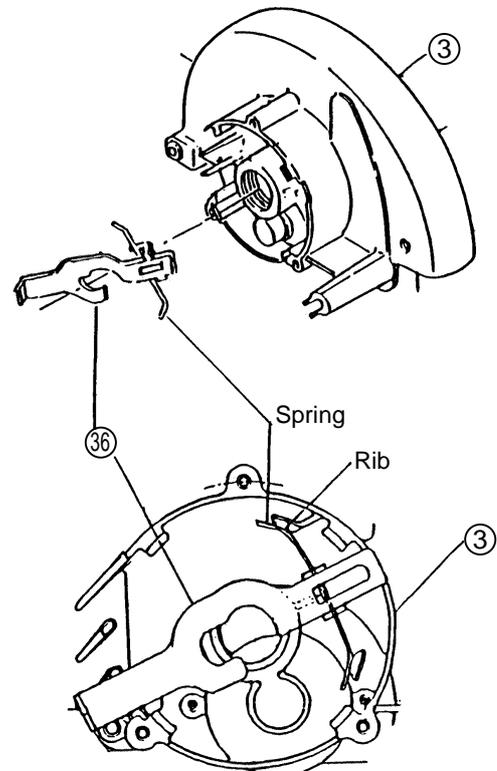

Fig. 12
- (3) Reassemble the Lock Lever (36) (See Fig. 12):
- A. Position the Lock Lever (36) between the Fan and the 6001VVCMP2L Ball Bearing (37) of the Armature (35), and carefully assemble it together with the Armature (35) into the Gear Cover Ass'y (3).
- B. Ensure that both ends of the Spring on the Lock Lever (36) are properly supported inside the ribs of the Gear Cover Ass'y (3).
- C. When assembly of the Lock Lever (36) is completed (when the Gear Cover Ass'y (3) has been assembled to the Housing Ass'y (27) and fastening with the